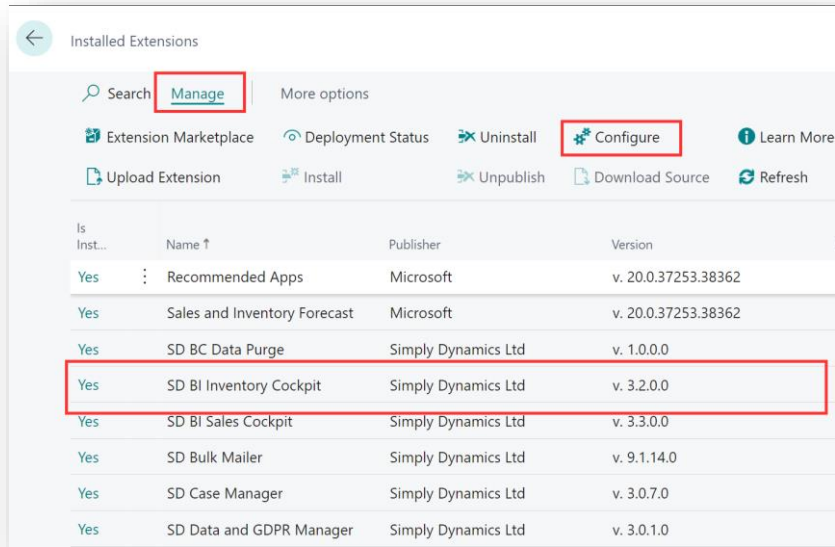

Figure 4-4
3. Select the **SD BI Inventory Cockpit App** record and from the menu, select the **Manage** group, and choose **Configure** (Figure 4-4).